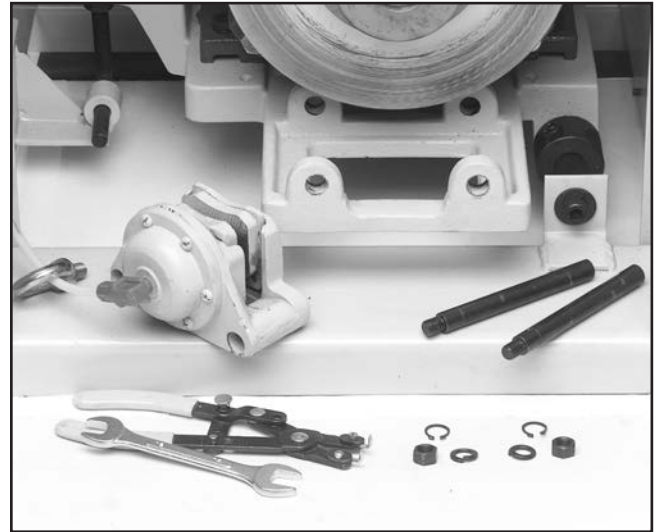

Figure 39. Removing caliper to replace brake pads.
4. Pull the mounting pins out of the caliper bracket and remove the air line from the caliper. The caliper should now be able to be removed as in **Figure 39**.